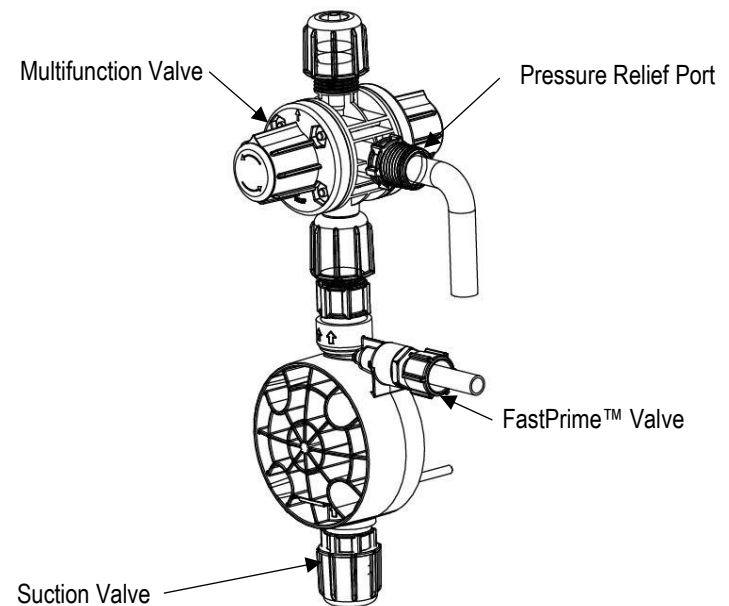

FIGURE 4
1. Connect pressure relief tubing to the pressure relief port (Figure 4). Route tubing to the solution tank. This tubing must not be submerged in the solution.
1. Connect the 3/8" outer diameter clear vinyl tubing provided with the pump to the FastPrime™ Valve barbed nozzle (Figure 4). Route tubing to the solution tank. This tubing must not be submerged in the solution.